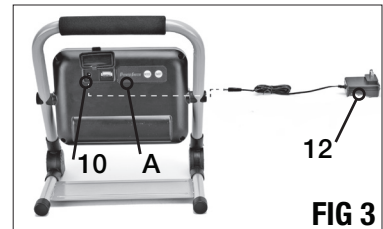

FIG 3
CHARGING/RECHARGING THE WORK LIGHT (FIG 3)
2. Connect the 120V AC power charger and the charging port (10) as shown in FIG 3.
3. Plug the AC charger into a standard 120V/60Hz power outlet to start charging. A lit red "PowerSmith" logo (A) indicates the charging is in progress. The "PowerSmith" logo turns green when the charging is completed.